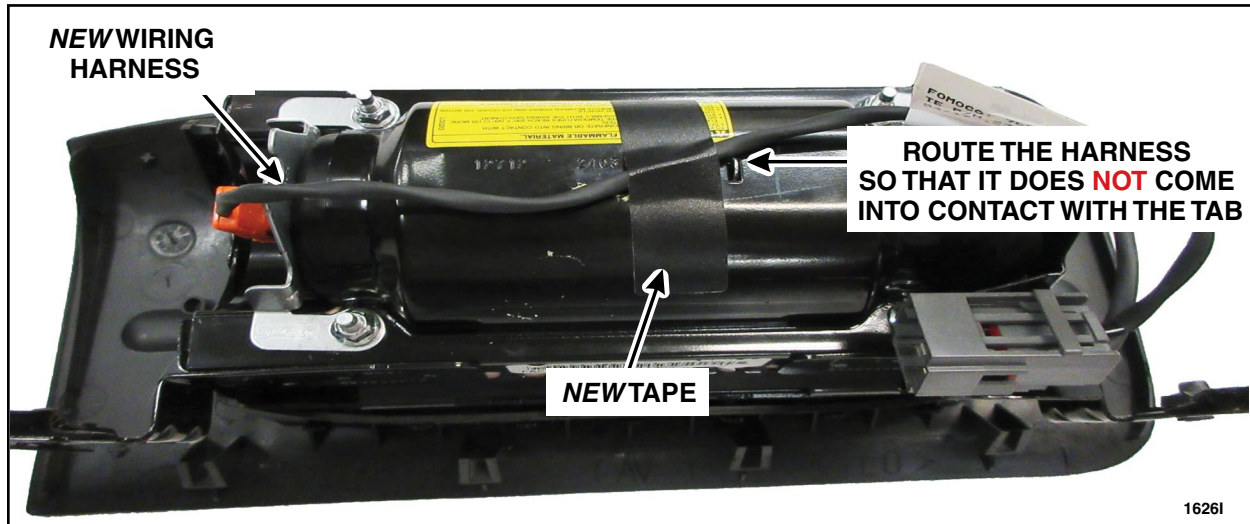

FIGURE 10
13. Install the *new* wiring harness onto the passenger airbag module and connect to both sides of the inflator. See Figure 10.
14. Install the *new* tape to the wiring harness and airbag assembly. See Figure 10.